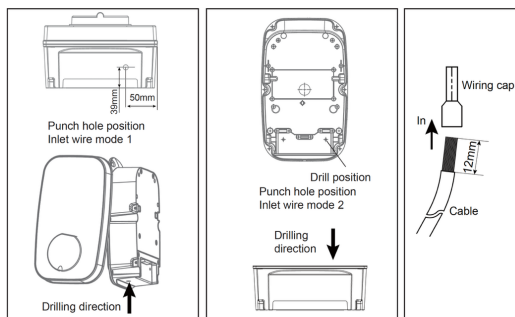

Fig. 13
- Respect size and position indicated in the figure (reference fig. 13).
- Option 1 (bottom entry): the housing hole diameter is $\varnothing 24$ mm for the single-phase model (EU01_116898 - PIT&STOP SMART 7.4 kW) or $\varnothing 28$ mm for the three-phase model (EU01_116897 - PIT&STOP SMART 11 kW). Figure 13 shows reference dimensions 39 mm and 50 mm with respect to the edges.
- Preparation of the cable end: remove approximately 12 mm of insulation and place the "wiring plug" (Figure 13) or the intended termination before connecting to the terminal block.
- a5. Connect the cable to the terminal block following the “Electrical wiring connection” section (reference fig. 13). Keep the correspondence of conductors L/N/PE (single phase) or L1/L2/L3/N/PE (three phase).
Note: the connection reference is shown in figure 13.
- b3. Connect the cables to the terminal block following the "Electrical wiring connection" section (reference fig. 13).